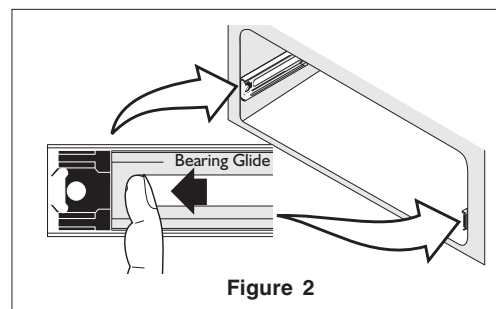

Figure 2
1. **Pull the bearing glides to the front** of the chassis glide (See Figure 2).